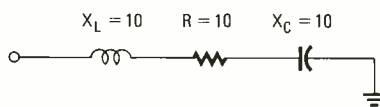

FIG. 2
3. In a series RLC circuit such as Fig. 2: